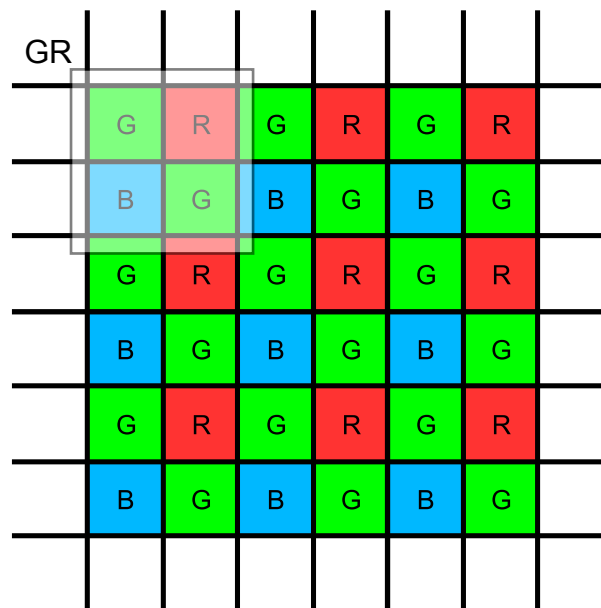
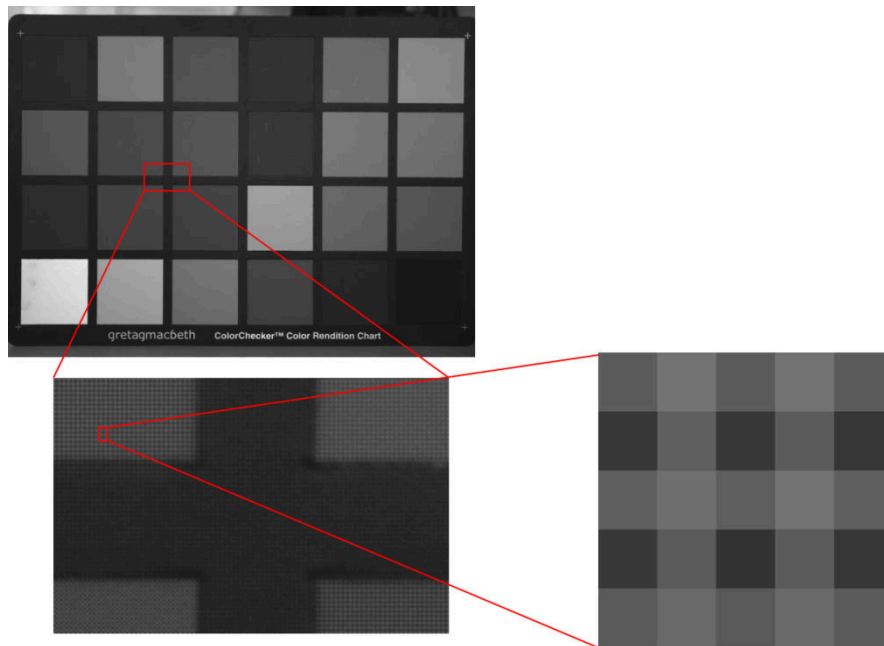

Figure 148: Bayer Filter Pattern GR
Figure 149: Raw image overlaid with a Bayer pattern
Each pixel on a digital camera sensor contains a light sensitive photo diode which measures the amount of incoming light. As photodiodes are monochromatic devices, they are unable to determine the distribution of the incoming light to different wavelengths. A common way to distinguish between different light wavelengths or colors is to place an array of color filters (*Color Filter Array*; CFA) on top of the sensor to filter out for example the red, green, and blue components of light falling onto it. Among many CFA patterns, the most commonly used is the Bayer pattern. For each 2×2 set of pixels, two diagonally opposed pixels are equipped with filters which are only transmissive for green, the other two only for red and blue. Since green carries most of the luminance information for the human eye, its sampling rate is twice as that of R and B. Figure 148 shows the "GR" filter alignment, which means that the pattern starts with green (G) followed by red (R).
The illustration in Figure 148 is for demonstration purposes only. In effect, each pixel is described by an intensity value, which appears gray to the human eye, shown in Figure 149.
Figure 149 shows a raw image from a color camera. If it is zoomed into the image, the Bayer pattern gets more and more visible. Each pixel represents an intensity value, to reconstruct a full color image from the incomplete color samples, the missing color information at each pixel has to be interpolated. The interpolation process has several different names like *Color Filter Array Interpolation*, *Demosaicing* or *Debayering*. The reconstructed image is typically accurate in uniform-colored areas, but has a loss of resolution especially at structures and edges.